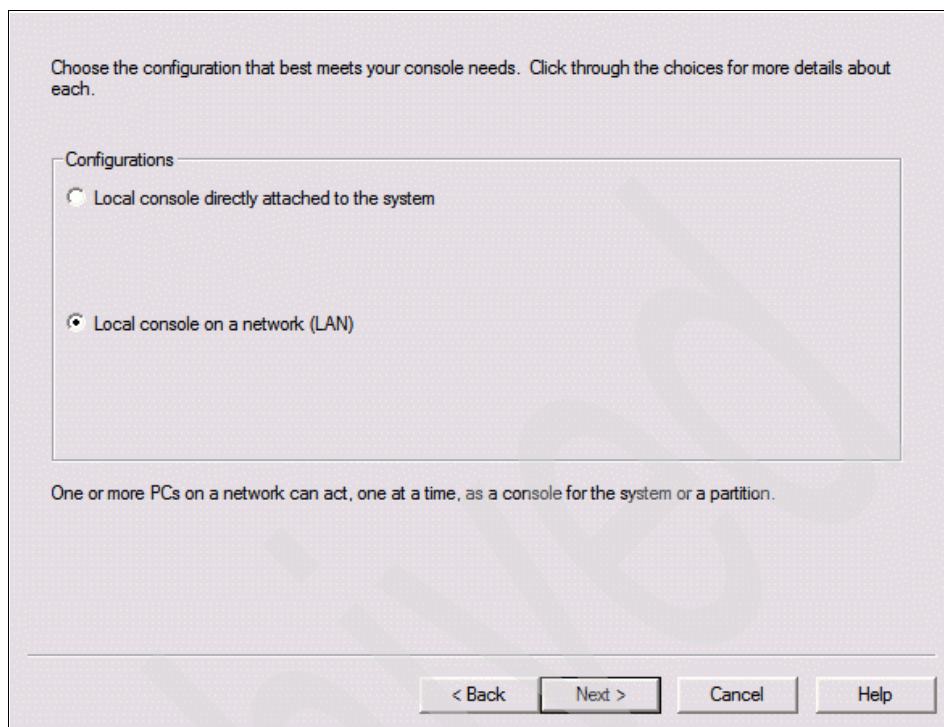

Figure 5-23 IBM System i Operations Console - choose a configuration
3. Depending on the actual infrastructure or existing systems, a connection can be made by using a direct connection or a LAN connection, as shown in Figure 5-23 on page 239.